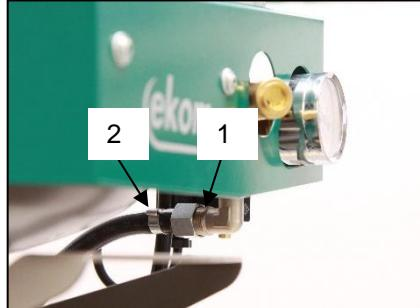

Fig. 7
13.1. Compressed air outlet (Fig. 7)